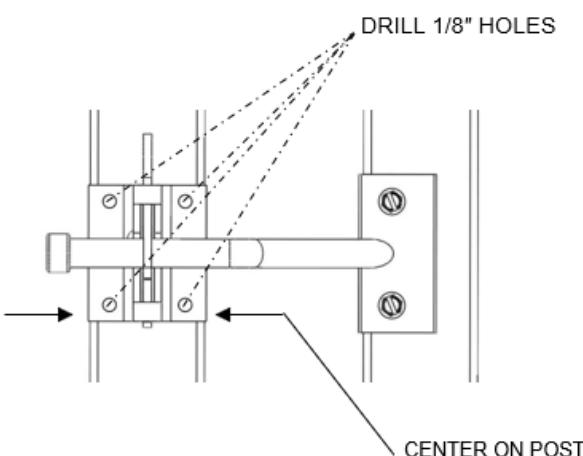

FIG. 7.19
7.8.8. Clip the latch to the finger catch and center on the step or ramp vertical square tube. Mark the center of the holes with a pencil, then drill four 1/8" holes through one side of the vertical handrail tube (FIG. 7.19).